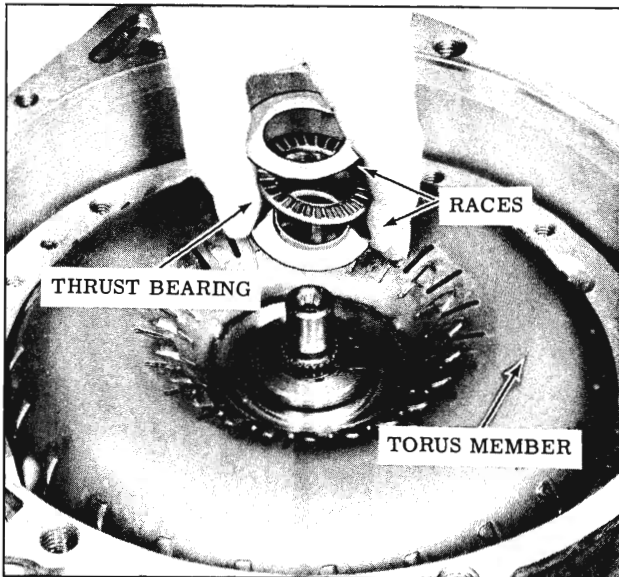

Fig. 3-34 Removing Bearing and Races
5. Remove race, thrust bearing, and race from either torus cover or torus member. Parts may have remained with either unit. (Fig. 3-34)